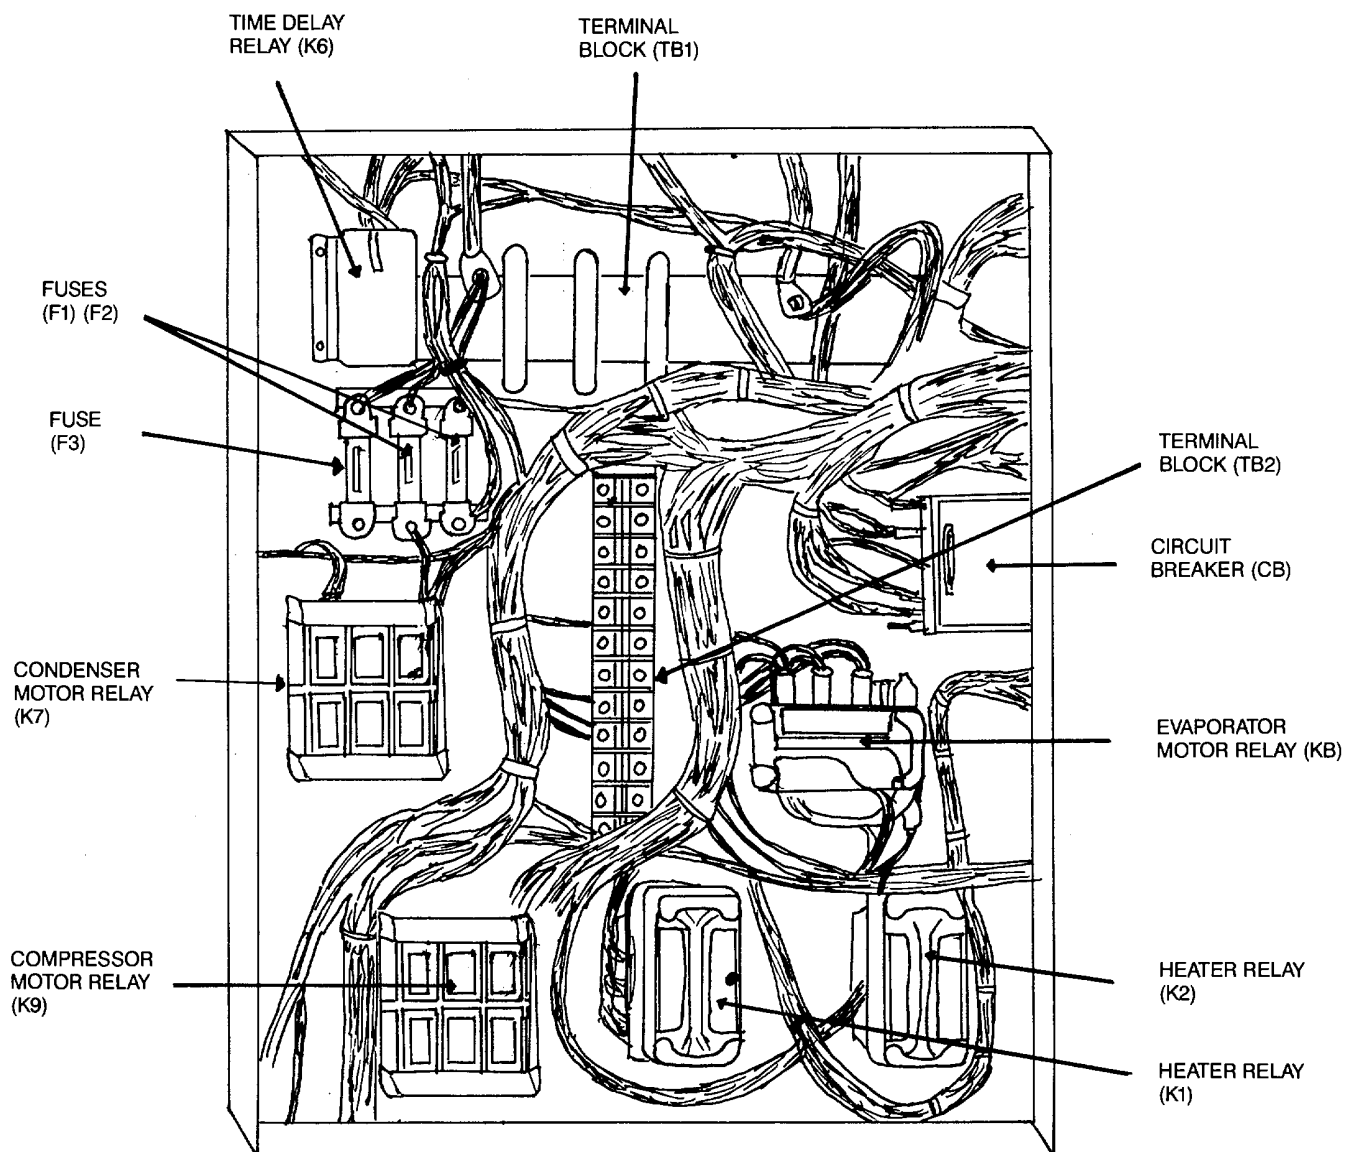

Figure 4-1. Junction Box (cover removed)
- (2) Remove the junction box cover (figure 4-1) by unscrewing four panel fastener screws.